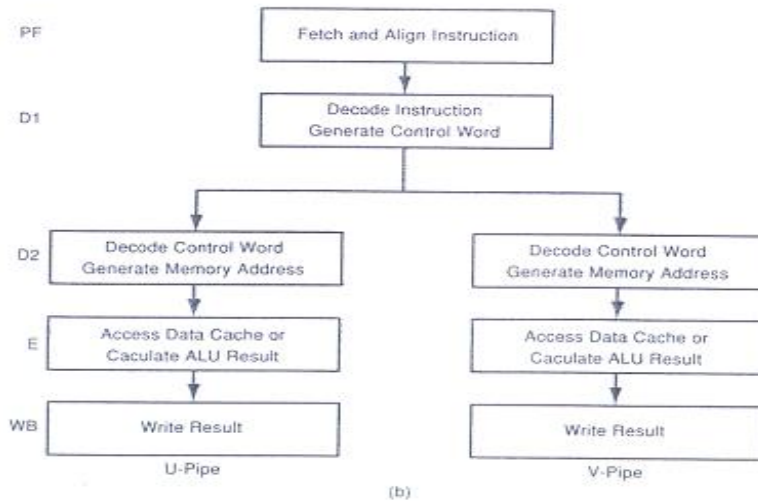

Figure 4.14: Integer pipeline stages in Pentium
- The Pentium has a five stage integer pipeline (Figure 4.14), branching out into two paths U and V in the last three stages. The Pentium pipeline stages are as follows:
- D2- Second decode: The CPU decodes the control word, generated in stage D1, for subsequent use in the next execution (E) stage. In addition, addresses for data memory references are generated.